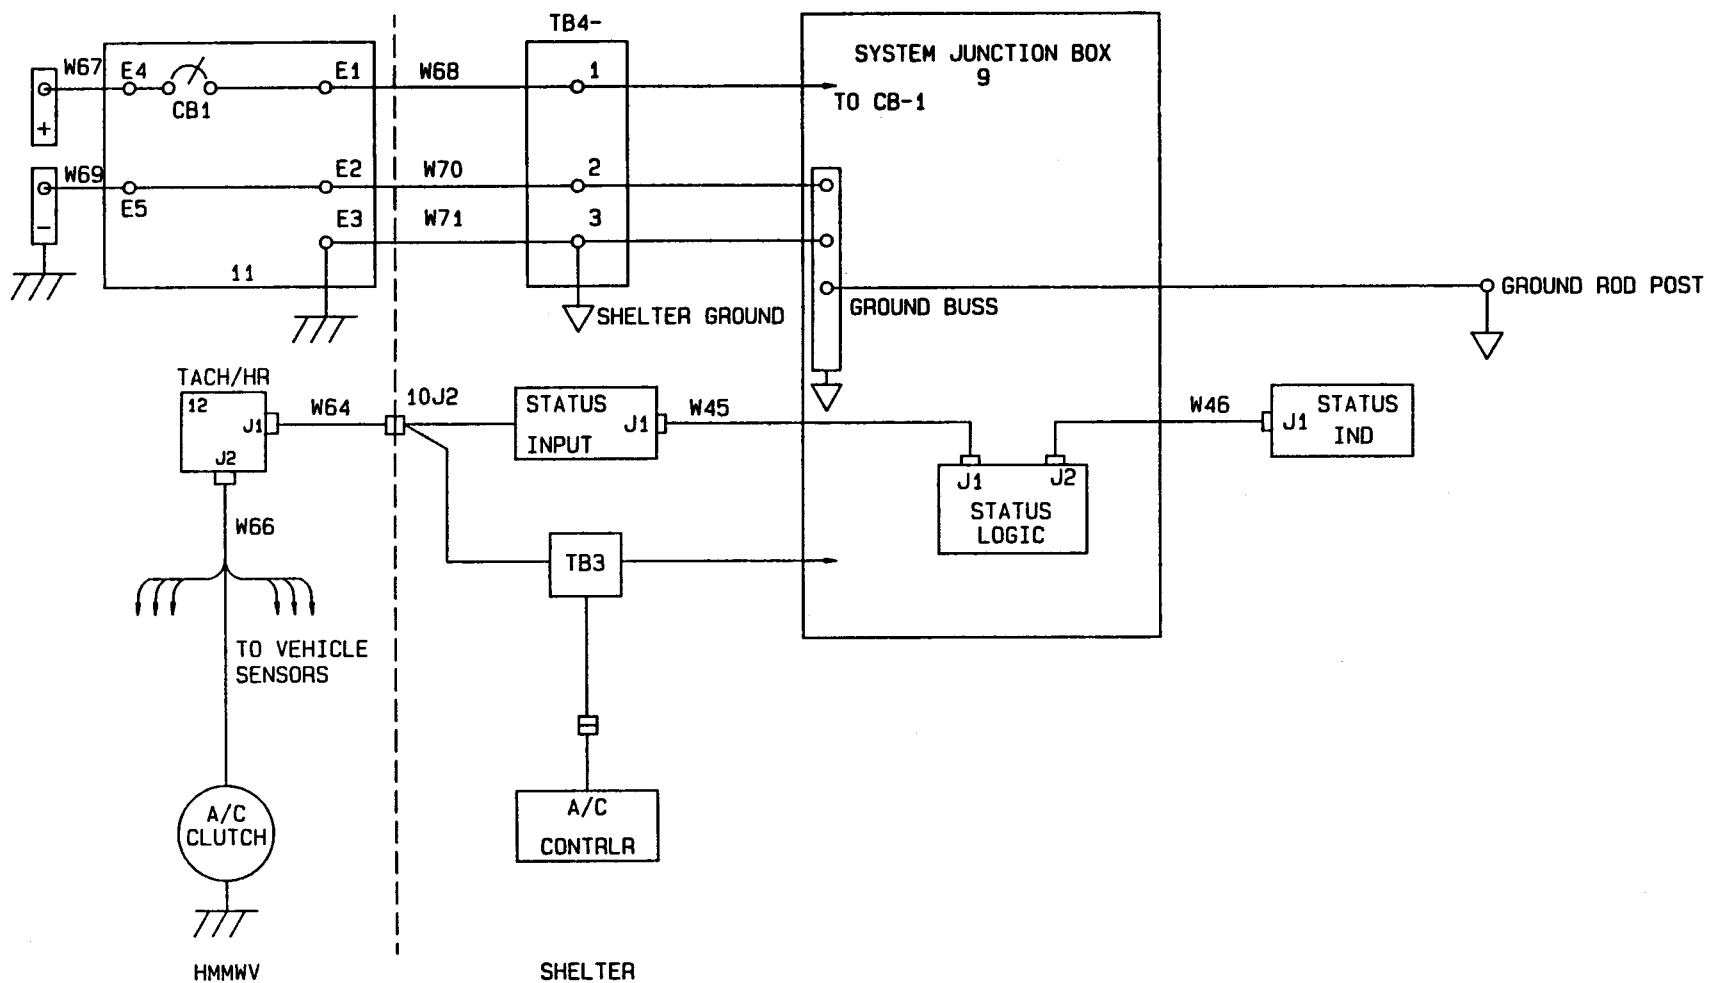

Figure 3-1. Status Warning System
(1) Question operator to obtain any information that might help you determine the cause of the problem.
(2) Never overlook the chance that the problem could be of simple origin. The problem could be corrected with minor adjustment.
(3) Use all senses to observe and locate troubles.
(4) Use test instruments or gages to help you determine and isolate the problem.
(5) Always isolate the system where the malfunction occurs and then locate the defective component.
(6) Review figure 3-1 to help in isolating the fault and understanding the equipment configuration.
| 4. WITH PARKING BRAKE NOT SET, PARKING BRAKE DASH LIGHT IS OFF, AND STATUS INDICATOR ALARM AND LIGHT DO NOT COME ON (REFER TO FIGURES 3-1 THRU 3-3) | |